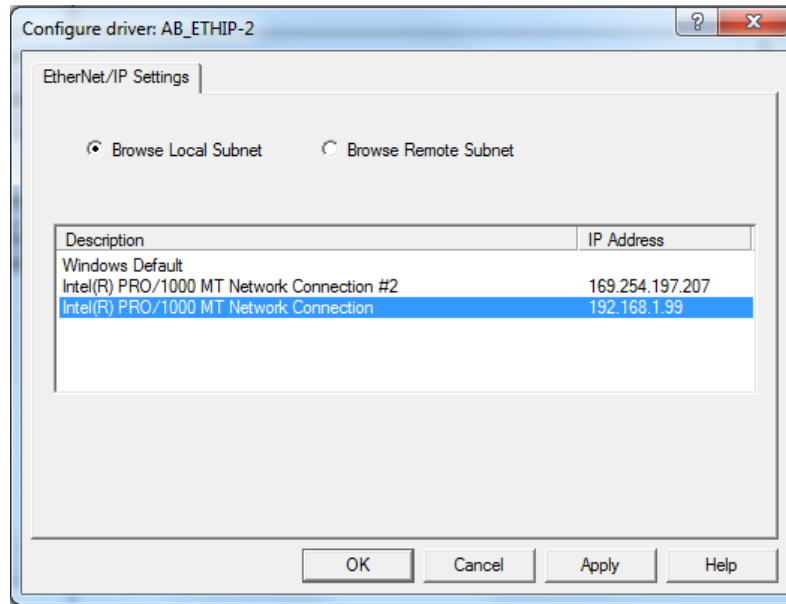

Figure 2: Network selection
- 5) Add a name if desired and click *OK*. Then it is going to ask for the proper Network connection (Figure 2). Make sure to select the connection that you have already configured with the proper IP address.